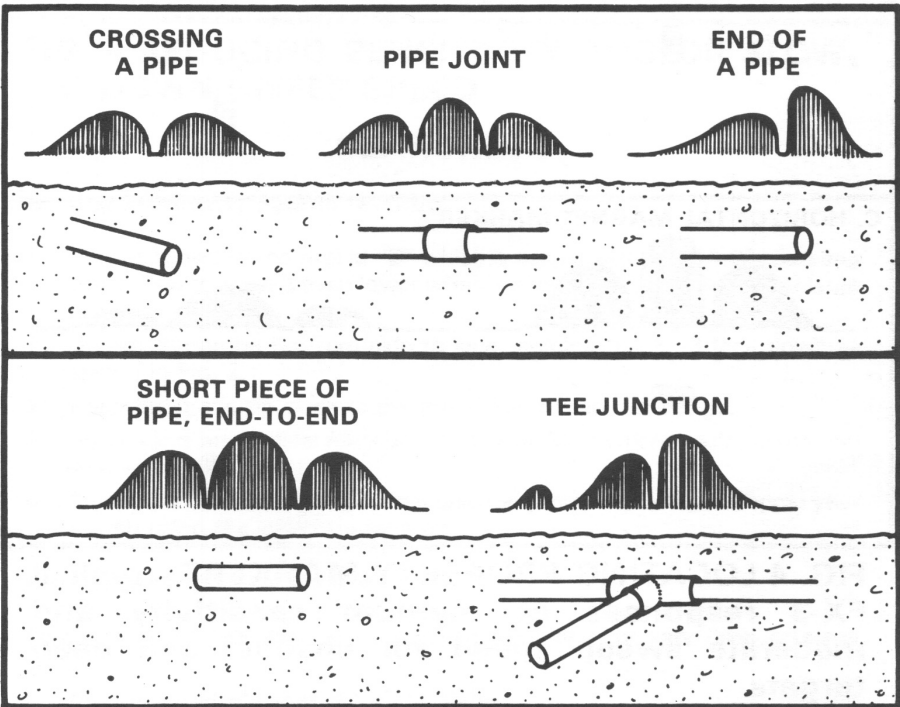
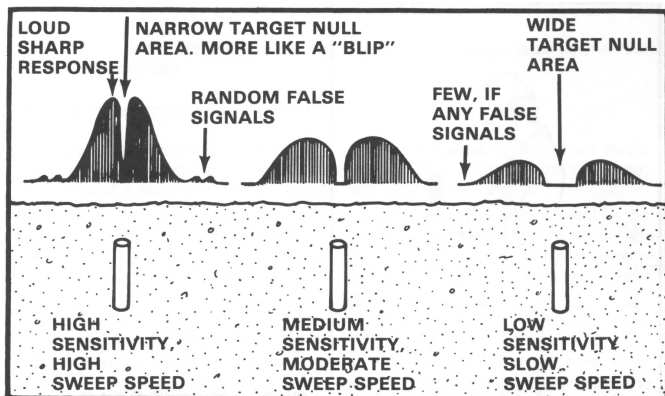

Figure 3. Tracing Pipes -Typical FX-3 responses at medium sensitivity and moderate sweep speed.
Figure 5. Reducing sensitivity and/or slowing down sweep speed.
6. Figures 3 and 4 show some typical responses for buried targets. Fig. 5 shows the effects of changing